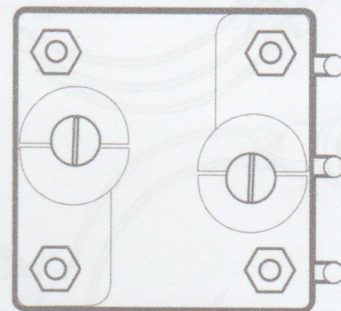

Figure 5 - Setting the "D" Plates
13. Adjust the two trimmer capacitors in the back of C1 so that the two "D" shaped plates on each trimmer do not overlap each other, as shown in figure 5.